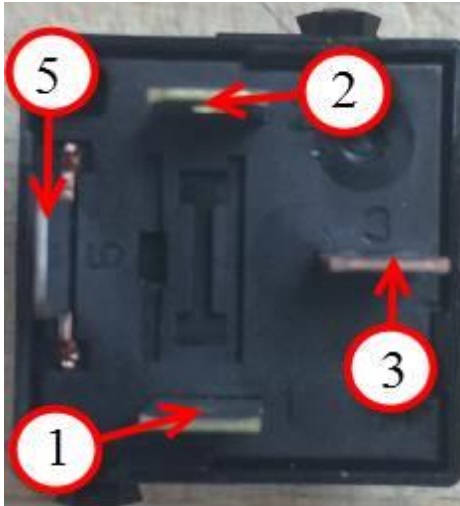

Figure 9. Relay terminal locations. Terminal 1: 85 Terminal 2: 86
10. Check for battery voltage on J271 relay harness terminals 1 (85 power) and 3 (30 power) (Figure 8 and Figure 9).